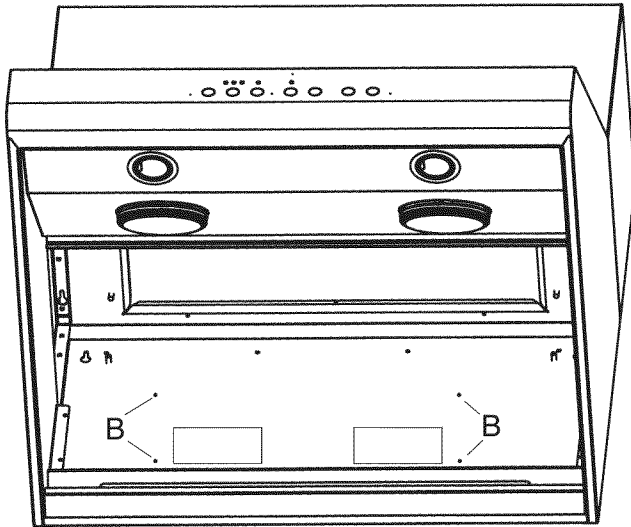

Figure 15: Weld Stud Locations
2. Figure 15 shows the weld studs in location B for horizontal (rear) discharge. Attach four (4) #10-24 nuts to the weld studs. For vertical discharge, attach nuts to studs at the top of the mounting plate.